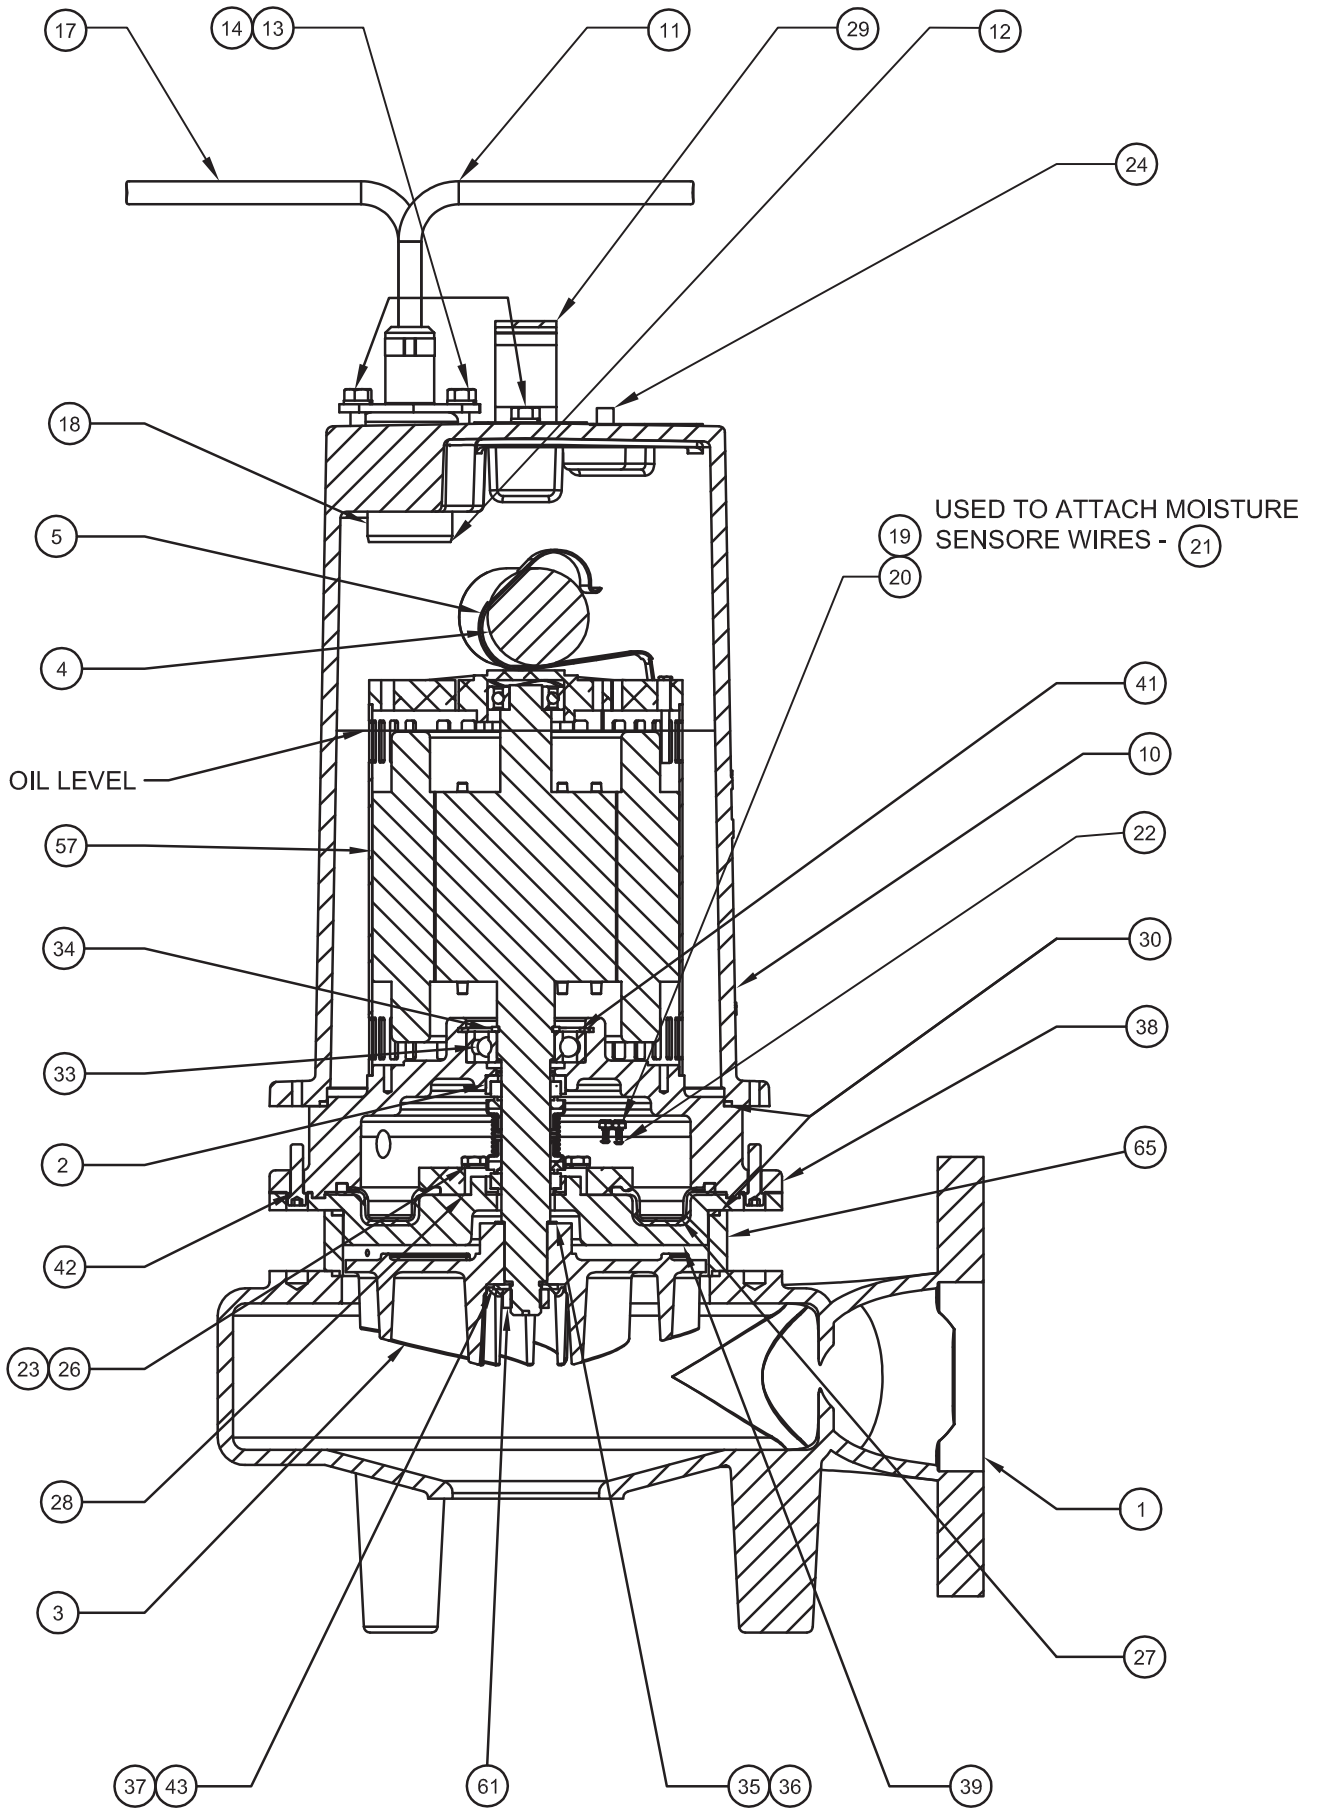

FIGURE 12
**Motor** - Slide lower bearing (47) and motor shaft squarely into the bearing bracket (21) until bearing seats on the bottom. Install retaining ring (29) in bearing bracket (21). Place stator over rotor, lining up motor bolts with holes in bearing bracket (21). Position capacitor (3, 1 phase units) so that it will lay on the opposite side of the cord entry bosses of the motor housing (2). Reconnect capacitor leads. Torque motor tie bolts to 22 in-lbs. Set square ring (42) in groove on bearing bracket (21).
Check power cord (52) and sensor cord (53), for cracks or damage and replace if required. Make internal wiring connections which are independent of the terminal block as shown in (Figure 12), using connectors (11) and wire assemblies (12) as required. Do not use wire nuts. Slip motor leads and ground wire through fiberglass sleeve (10). Lower motor housing (2) down onto bearing bracket (21) while aligning holes and stringing motor leads through the cable entry bore(s). (Slipping cords inside a 1 ft. length of .5"